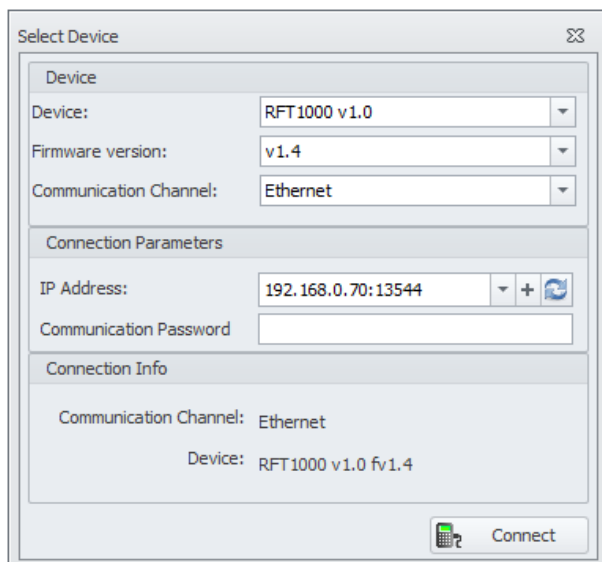

Fig. 6 Select device window in RogerVDM software
4. In the opened window (fig.6) select *RFT1000 v1.0* device, firmware *v1.4* and *Ethernet* communication channel.